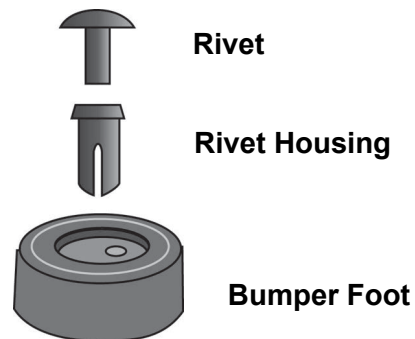

Figure 18. Parts of the Bumper Feet
1. Disassemble the bumper feet by removing the rivets and rivet housings from the bumper feet. See Figure 18.